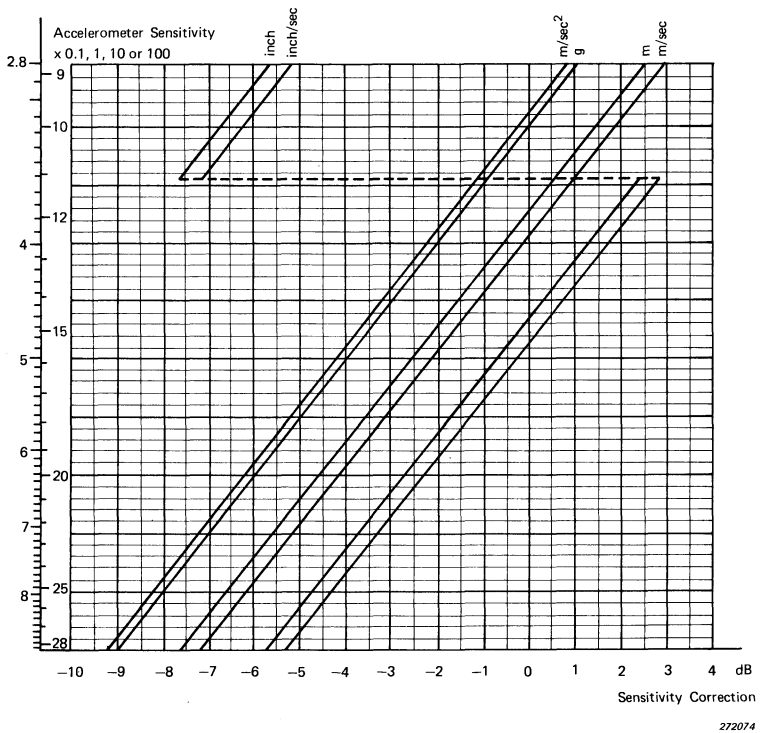

Fig.3.2. Accelerometer Sensitivity Correction chart
9. Determine Accelerometer sensitivity in mV/g from its calibration chart. Determine quantity (acceleration, velocity, or displacement) and units of measurement to be used. With this information determine the Sensitivity Correction in dB from Fig.3.2. Note that the ordinate (vertical scale) is a double, or folded scale, and that Accelerometers with sensitivities which differ by factors of 10 have the same Sensitivity Correction.